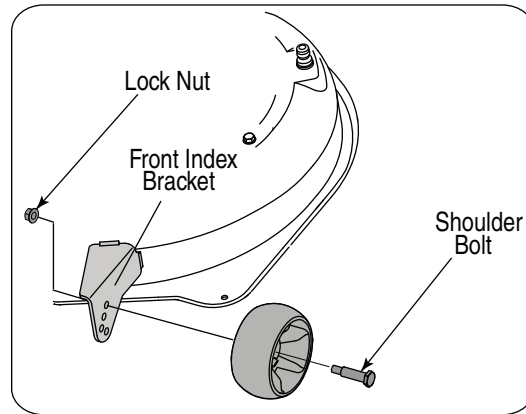

Figure 6-11
- Remove the lock nut securing one of the front gauge wheel shoulder screws to the deck. Remove the gauge wheel and shoulder screw. See Figure 6-11.